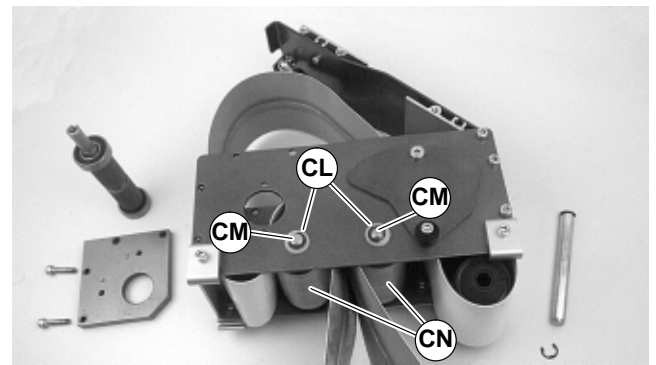

Figure 37
- For 44 mm, 70 mm or 95 mm wide conveyor, detach E-ring clips and remove washers (CL of Figure 37). Remove pulley shafts (CM) and pulleys (CN).